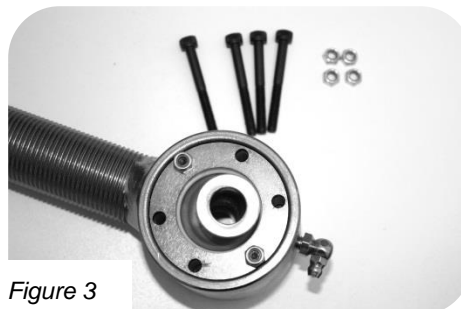

Figure 3
19. Insert the second thrust washer on top of the flex end housing, sliding the bolts through the holes. (Figure 3)